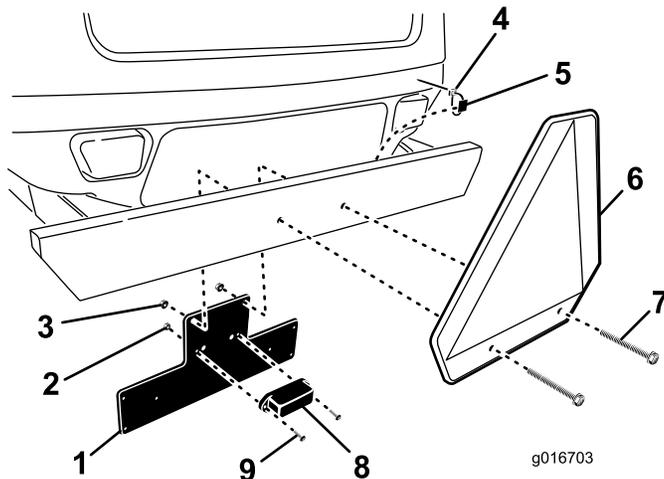

Figure 1
2. Mount the plate light to the registration plate with (2) #10 x 5/8 inch screws and #10 lock nuts (Figure 1). Do not over tighten. Make sure the lens points downward and the wires are inserted through the hole in the plate mount.
3. Remove the (2) screws and nuts securing the slow moving vehicle sign to the bumper (Figure 1).
4. Using (2) 1/4 x 2-3/4 inch screws and 1/4 inch nuts, mount the slow moving vehicle sign (if required) and the registration plate to the bumper (Figure 1).
6. Secure the wires to bumper with the cable tie mounting pads and cable ties (Figure 1).